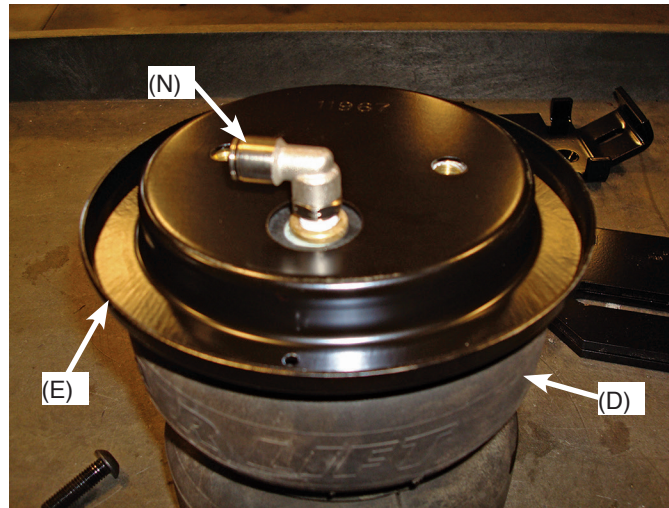

fig. 7
*The radiused (rounded) edge of the roll plate (E) will be towards the bellows so that the bellows is seated inside both roll plates.*
2. Install the Swivel Fitting (N) into the top of the Air Spring finger tight plus one and a half turns (fig. 7).